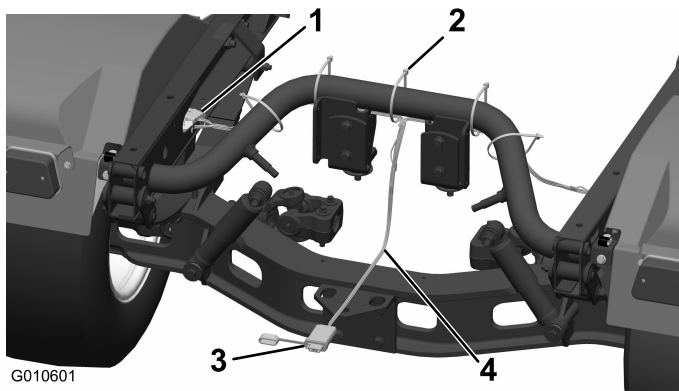

Figure 1
3. Route the wire harness in from the trailer hitch to the rear frame tube. Then, separate the two sides of the harness, routing each along the bottom of the rear frame tube to the openings in the side frame rails as shown in Figure 1.
6. Using the 5 cable ties, secure the trailer light wire harness to the rear tube in the locations shown in Figure 1.